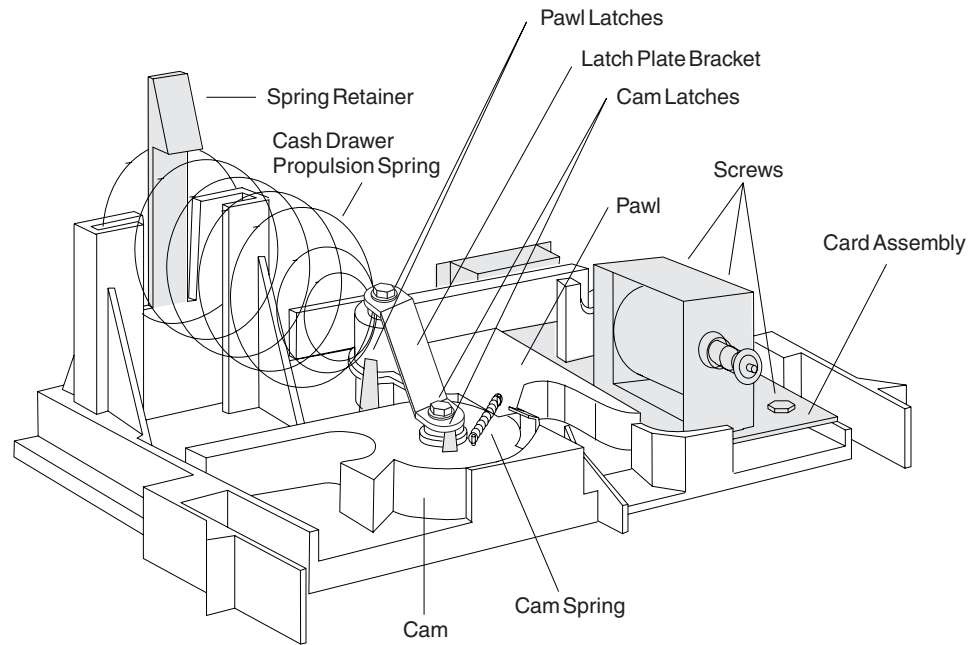

Figure 92. Cash-drawer latch and sensor assembly
4. Remove the cash-drawer propulsion spring by pushing the spring retainer back, and then slide the spring up and out of its mounting slots (see Figure 92).
5. Remove the latch plate bracket by removing the screw in the cam pivot post and the screw in the pawl pivot post (see Figure 92).
6. Remove the cam spring by lifting the ends of the small posts on the cam and the pawl (see Figure 92).
7. Spread apart the two pawl latches that hold the pawl on the pivot post, while lifting the pawl off the post (see Figure 92).
8. Spread apart the two cam latches that hold the cam on the pivot post, while lifting the cam off the post (see Figure 92).
9. Remove the three screws that retain the card assembly and remove the card assembly (see Figure 92).